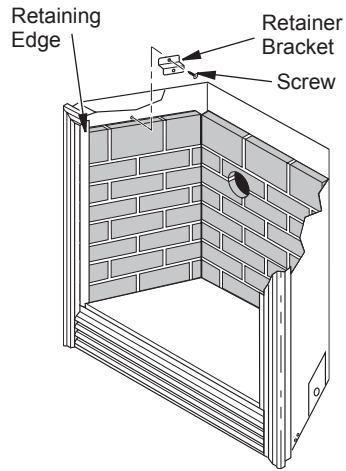

Figure 5 - Securing Side Firebrick Panel to Side Wall of Fireplace
- Secure side firebrick panel to side wall of fireplace with one retainer bracket and one screw (see Figure 5, page 3).